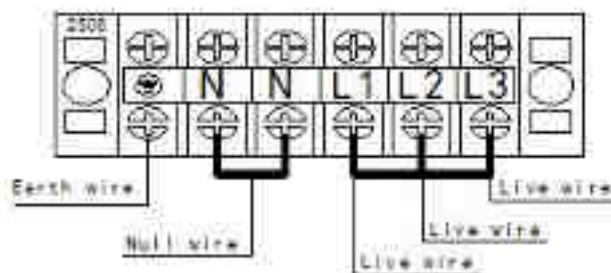

Figure 12 Single Phase, 215-240V
- Take off the back cover of the generator, insert the 3-core power wire (single phase, 215-240V, 50/60Hz) or 5-core power wire (three phases 380-415V, 50/60Hz) into the hole at the back of the generator case and connect to the correct terminal. (Refer to figure12- 13)